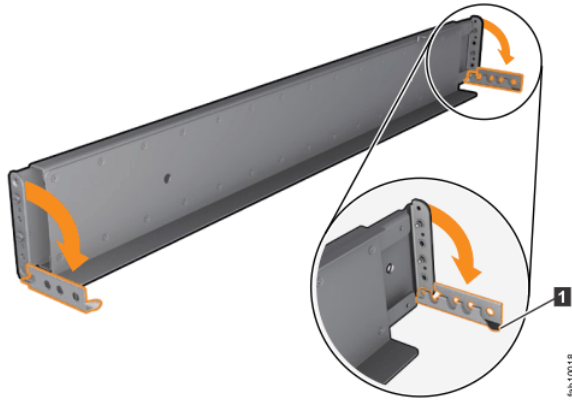

Figure 121. Opening the hinge brackets
6. At each end of the rail, grasp the tab **1** and pull *firmly* to open the hinge bracket (see Figure 121 on page 160).